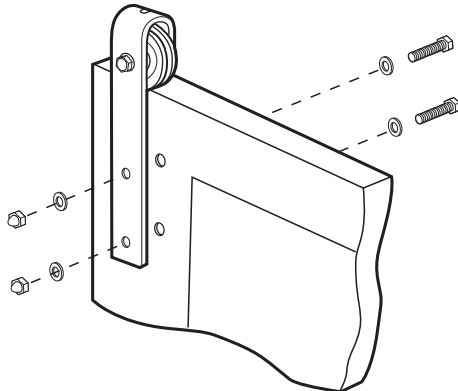

Figure 9
The door stiles (A) have pre-drilled holes located at the top for the roller bracket (O) installation. Separate the bolts from the decorative nuts on one of the roller brackets (O). Line up the pre-drilled holes in the stile with those on the roller bracket. Reinsert the washers/bolts through the hole in the back of the door. Then re-attached the washer/decorative nuts onto the bolts on the front of the door and tighten with wrench to secure. **See Figure 9.** Repeat steps for the second roller bracket.